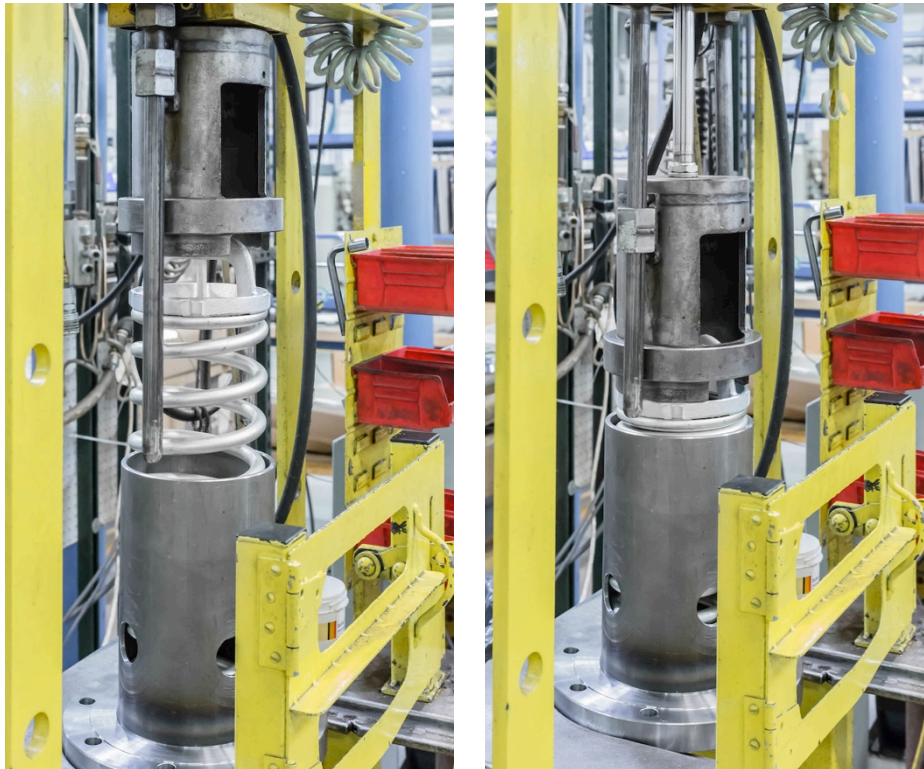

Figure 3-10 Compress the Valve Spring
- 3.1.11 Using a press yoke having a cutaway as shown in Figure 3-10, compress the valve spring enough to allow loosening of the spring-adjustment nut (item 10). Remove the spring-adjustment nut while taking care to support the valve stem.